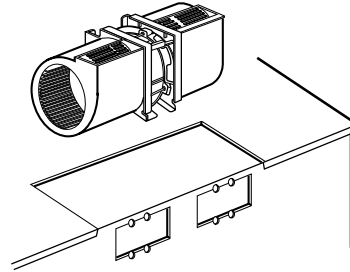

Figure 20-b
- (1) When mounting the door assembly to the oven assembly, be sure to adjust the door assembly parallel to the chassis. Also adjust so the door has no play between the inner door surface and oven frame assembly. If the door assembly is not mounted properly, microwaves may leak from the clearance between the door and the oven.
- (3) Carefully pull the ventilation motor ASS'Y out of the microwave oven. (See Figure 20-b)